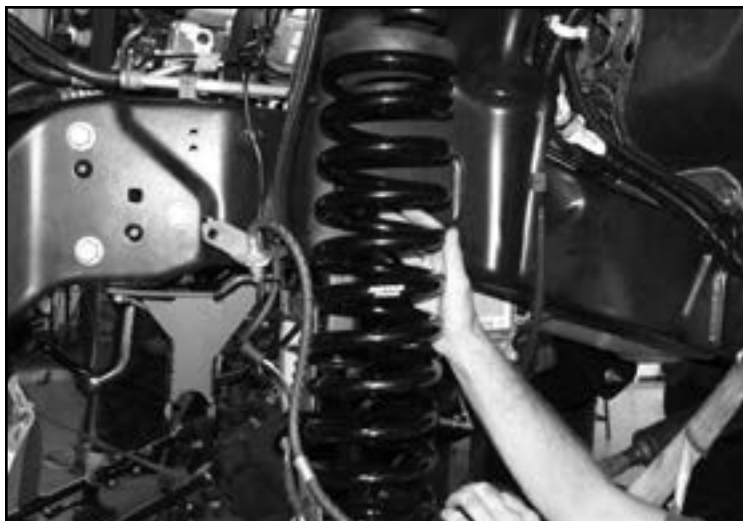

FIGURE 24 - STEP 24
24. Install FT30123BK (Coil Spring) using the factory upper isolator. **SEE FIGURE 24**